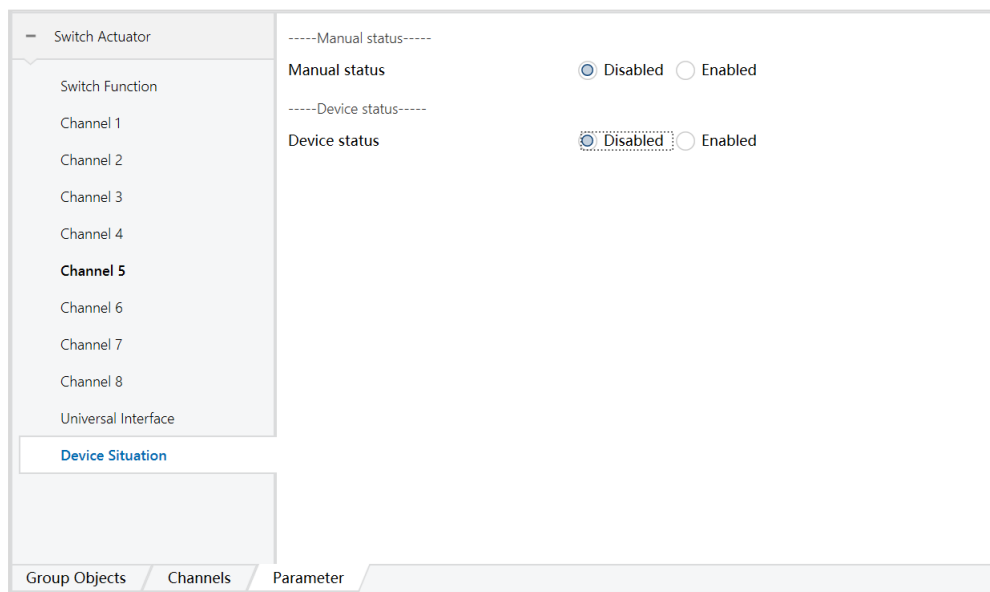

Figure 6.3.1
1) Click "Device Situation" as shown in Figure 6.3.1, when the parameters Manual status and Device status are set to Enabled, the corresponding functions will be enabled.
The 8-way switching actuator has a total of 73 objects, as shown in Figure 6.3.1, and the specific functions are shown in Table 1.1.